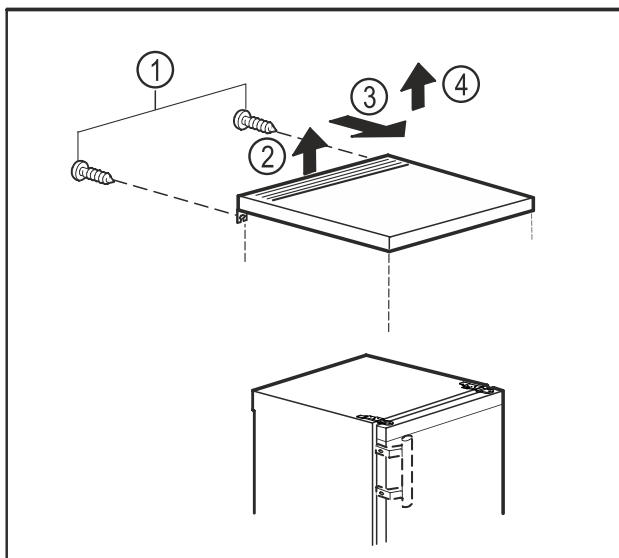

Fig. 10
- Remove the screws on the rear side. Fig. 10 (1)
- Raise the table top at the back. Fig. 10 (2)
- Push the table top forwards. Fig. 10 (3)
- Remove the table top upwards. Fig. 10 (4)